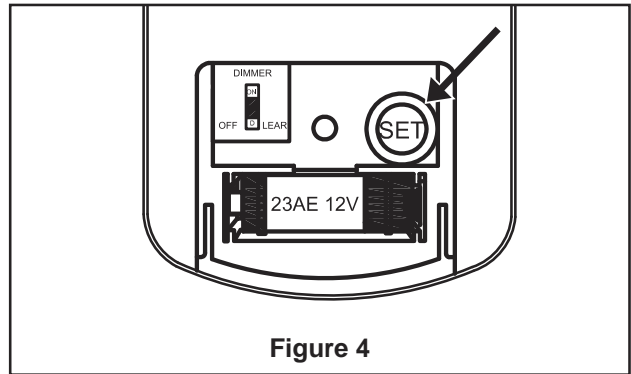

Figure 4
6. Follow these steps to pair your remote control to your fan. (Figure 4)